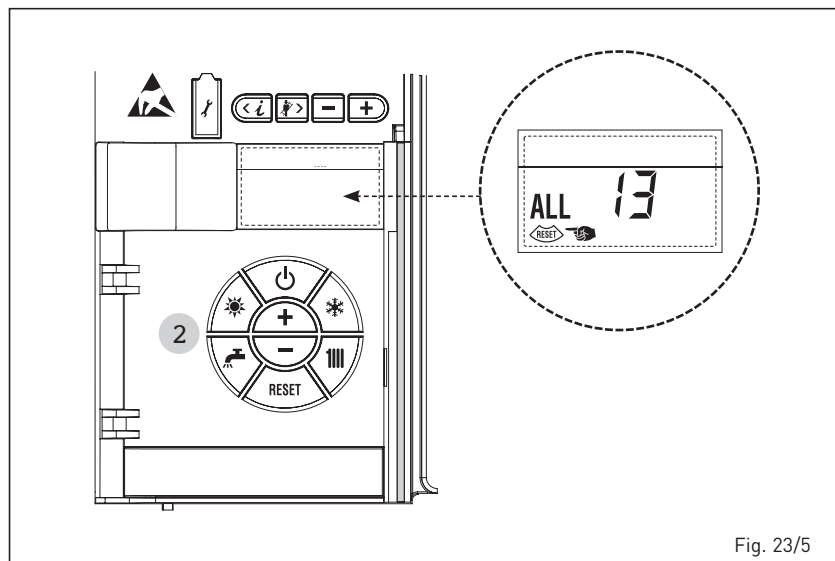

Fig. 23/5
– “ALL 13” INTERVENTO Sonda FUMI (fig. 23/5)